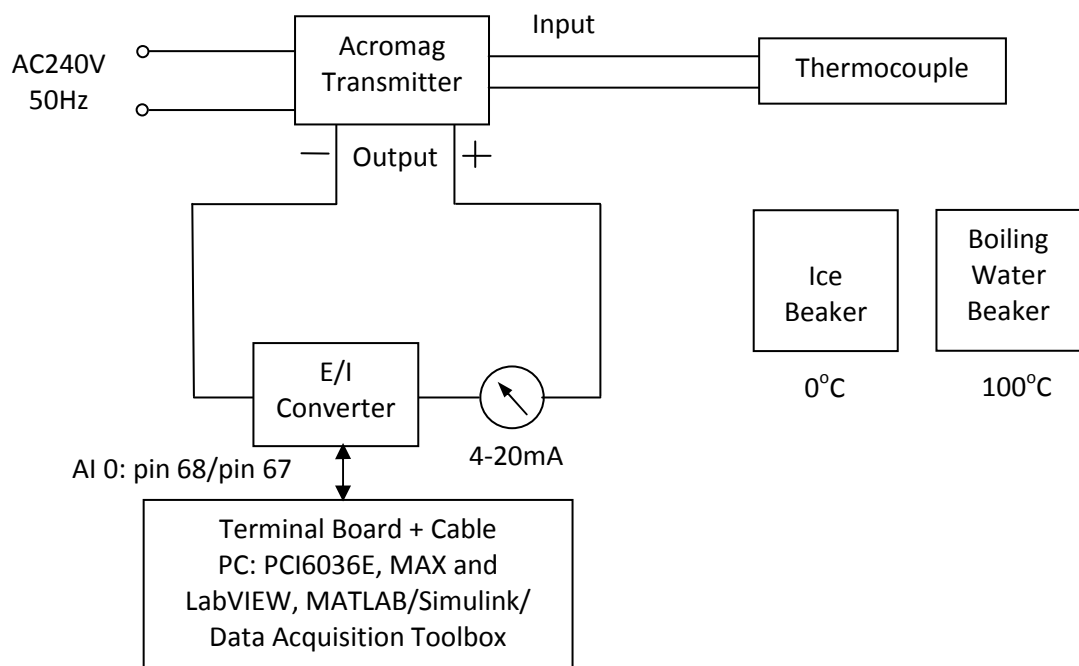

Figure 1 Connection diagram
- Connect the thermocouple, Acromag transmitter, mA meter (or digital multimeter), volt-to-current converter, terminal board, cable (see Appendix 1) and PC as in **Fig. 1**.